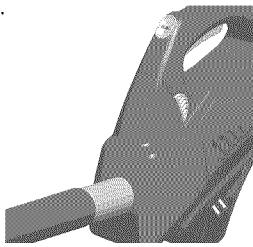

Figure 25 - Assembled Main Handle and Handle Adapter
6. Slide main handle into handle adapter until units "snap" together (see Figure 25). **IMPORTANT:** Both release buttons on main handle must be fully engaged.